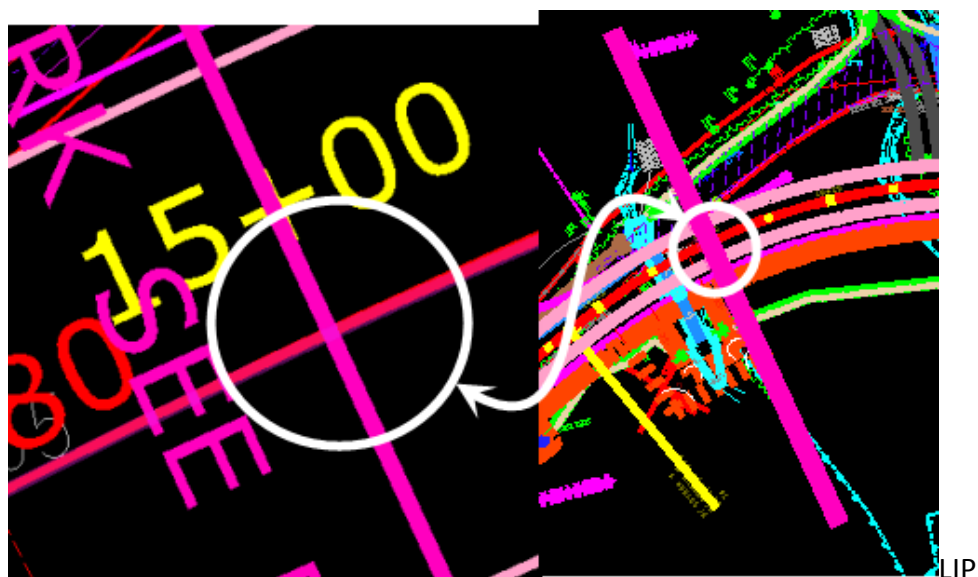

Figure 49 - Match Mark at Full-Station
- If you are unable to fit the entire design within one border, additional plan sheet file(s) need to be created. Place match mark lines at full stations (Figure 49) where the sheets will be split. Match mark lines are perpendicular to the baseline/centerline. For further information see Section 4.3.4.